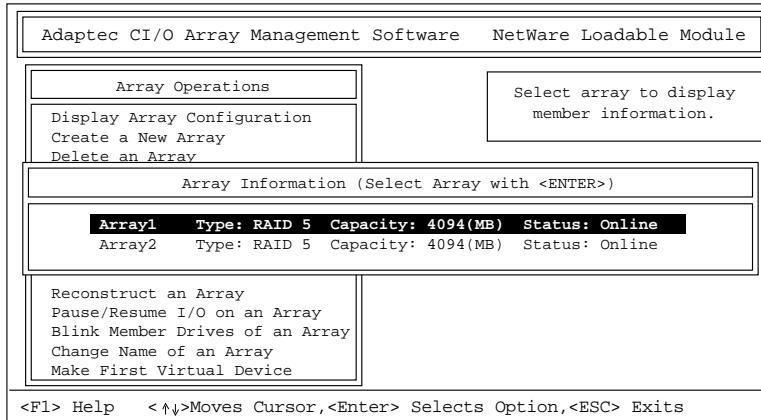

Figure 4-3. Array Information
- 2** Select **Display Array Configuration** from the Array Operations menu. A screen similar to Figure 4-3 appears.